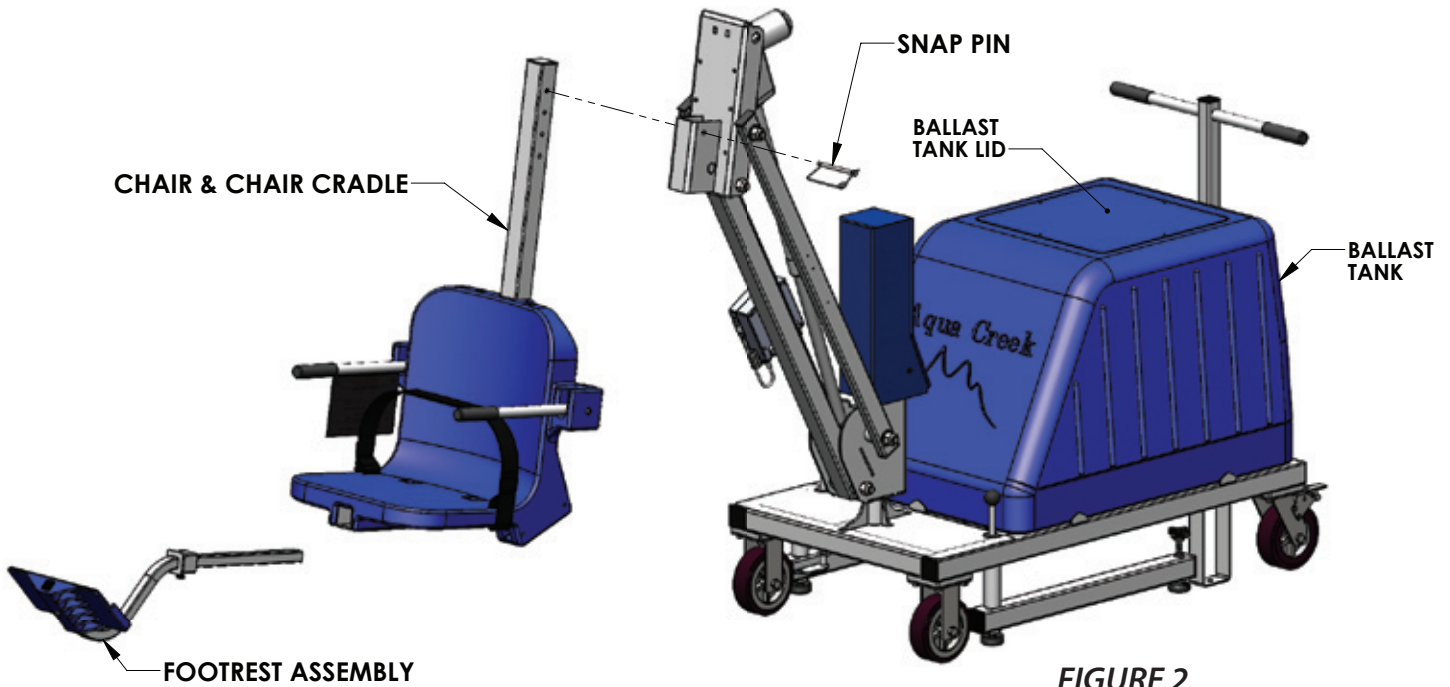

FIGURE 2
1. Remove the lift from the packaging. Slide the chair and chair cradle through the bottom of the head casing and attach using the supplied snap pin. Slide the footrest assembly into the chair tube and attach using the supplied knob screw (be sure the plastic insert is fully installed in the chair tube and that the hole in the insert and in the bottom of the chair tube are aligned). See FIGURE 2 below.